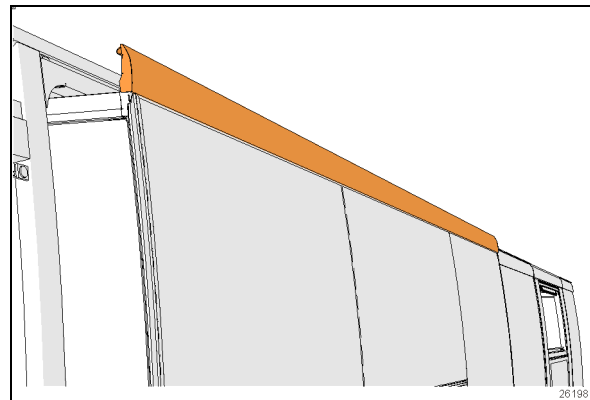
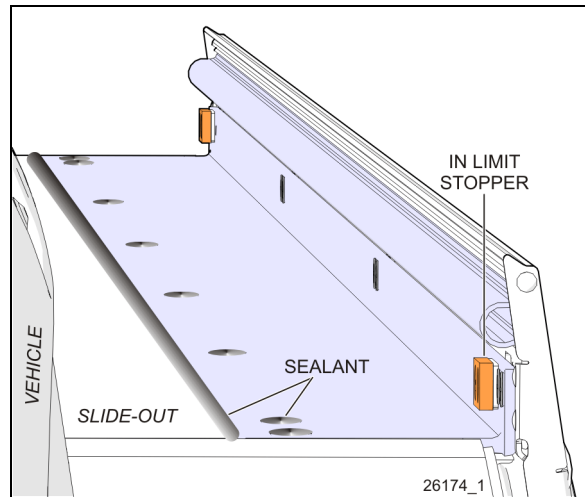

FIGURE 18 TOP EXTRUSION
FIGURE 30: EXTERIOR EXTRUSION
2. Turn the ignition to the off position. Using the manual override procedure (Paragraph 5), extend the slide-out a few inches so the exterior extrusion screws located on the top of the slide-out are accessible from outside (Figure 30).
7. Using a knife, cut the sealant between the Top extrusion and the roof. (Figure 18, Figure 30)
8. Remove the screws holding the top extrusion to the room structure. (Figure 18)
and the edges to prevent water infiltration (Figure 30).